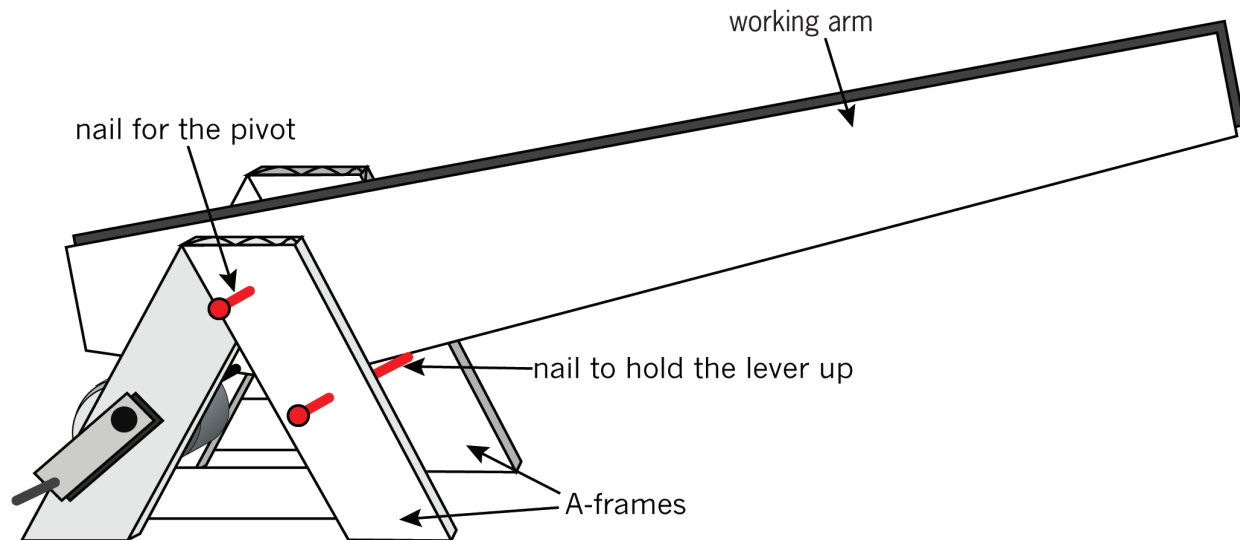

Figure 15: How to connect your working arm to your A-frames
- Push another nail through the right legs of the A-frames to hold the working arm up. Look at Figure 15 to help you.